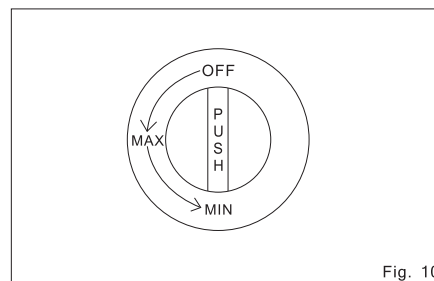

Fig. 10
- Place the gas control knob onto the gas cock axis and push it inwards firmly (Fig. 10,11).